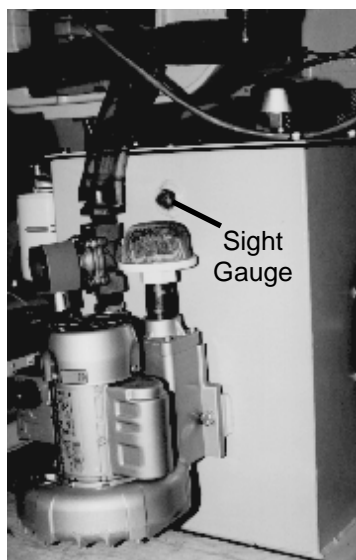

Figure 27
8. Using the transfer pump, fill the tank with recommended fluid until the level is just above the sight gauge shown in Figure 27 on page 53.